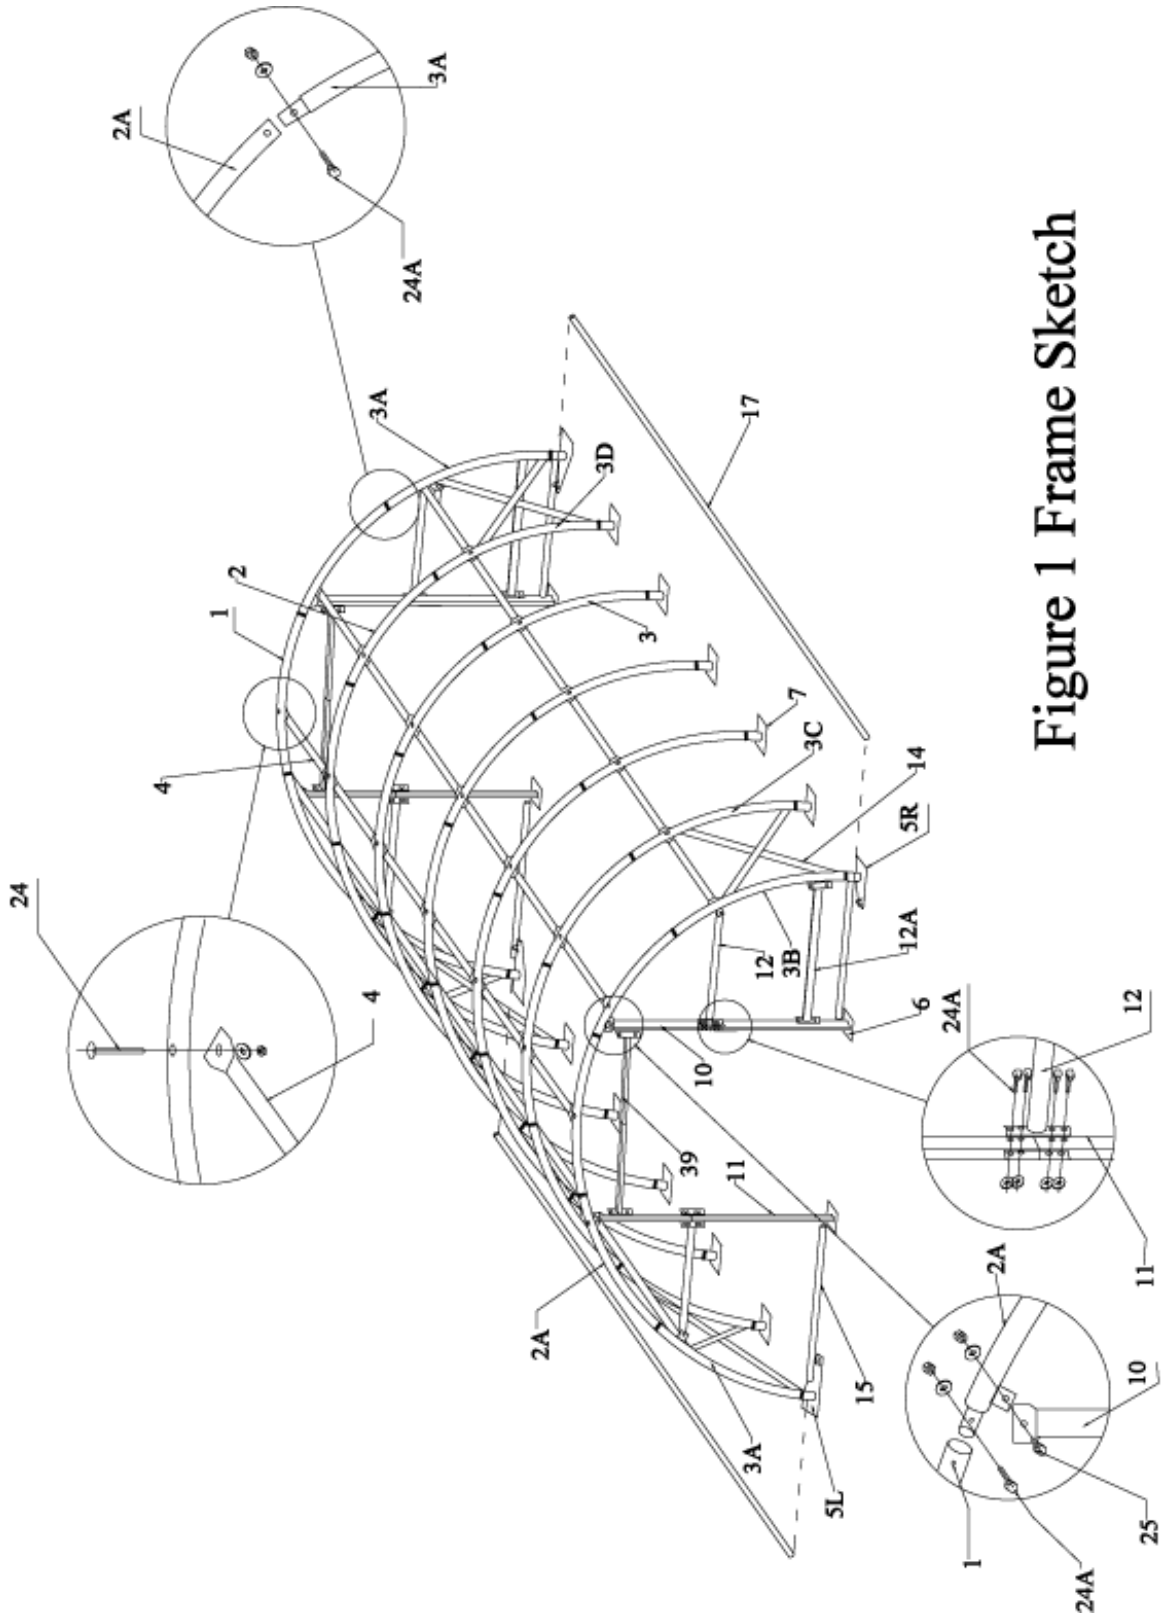
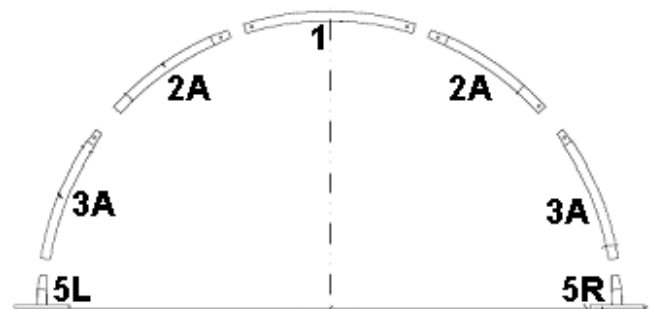

Figure 1 Frame Sketch
Figure 2 End Arch Assembly
Refer to Figure 1 Frame Assembly to review Interior Arch #2 and #6 requirements (directly inside End arches). These arches must have the Sidewall Tubes (3C & 3D) that accommodate the Wind Brace Supports. The first Interior Arch from the End Arch must use Sidewall Tube (3C), with clips for wind brace supports facing towards the end arch. Welded Wind Brace Tabs should be on the bottom of the sidewall tube.
Refer to Figure 1 Frame Assembly to review Interior Arch #2 and #6 requirements (directly inside End arches). These arches must have the Sidewall Tubes (3C & 3D) that accommodate the Wind Brace Supports. The first Interior Arch from the End Arch must use Sidewall Tube (3C), with clips for wind brace supports. Note that Sidewall Base Plates (7) and Base Plates End Standing Legs (6) are different and not interchangeable. Sidewall Base Plates are used only along Right Corner Base Flange (5R) for the End corners of the building. Secure the base flanges with either or both the Auger style anchor (20) and the Earth style anchor (21). Measurements shown in Figure 2 are to the center of the upright sockets on each Base Flange.
In order to assemble arches into a frame assembly, the Base Flanges (5L, 5R, 6, & 7) must be secured to the mounting surface. Refer to Figure 2 for an exact layout of all base flanges.